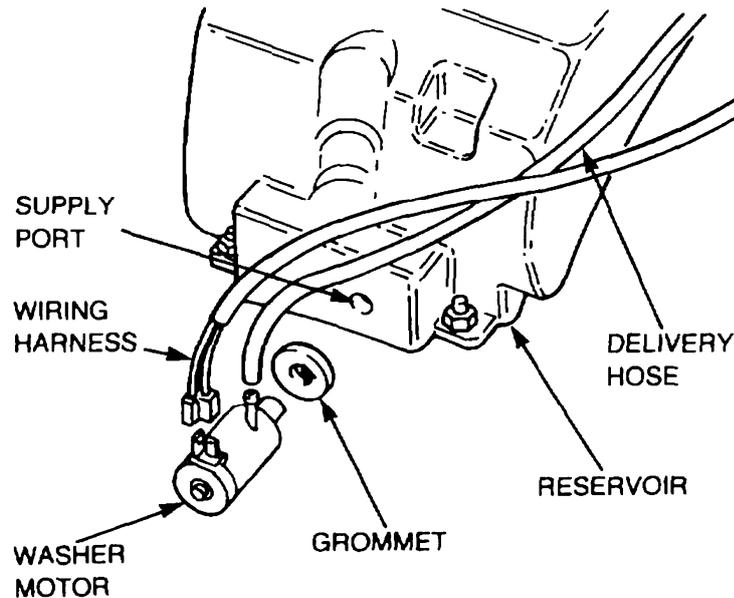

Figure 201 Windscreen Washer Motor Removal
- a. Remove the delivery pipe from the washer motor (Figure 201) and remove the motor from the reservoir.